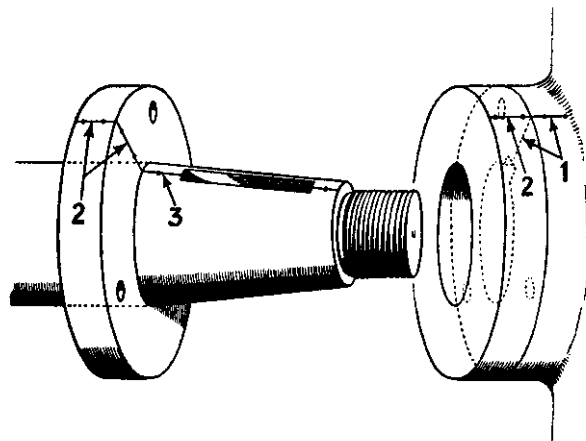

Fig. 8
- i. Scribe a line on the flywheel boss to mark the centre of the keyway in accordance with (1) on Fig. 8.
- ii. Fit dowel pins in wheel and the thrust-plate over the dowels and holding it tightly against the boss scribe a line to correspond with line on wheel, extending the line when plate is removed as (2) on left hand illustration Fig. 8.
- iii. Scribe a line (3) on the crankshaft taper through the centre of the keyway.
- iv. Fit the thrust-plate, with the lines together, see Fig. 8, to within $\frac{1}{16}$ " (approx.) of final position.